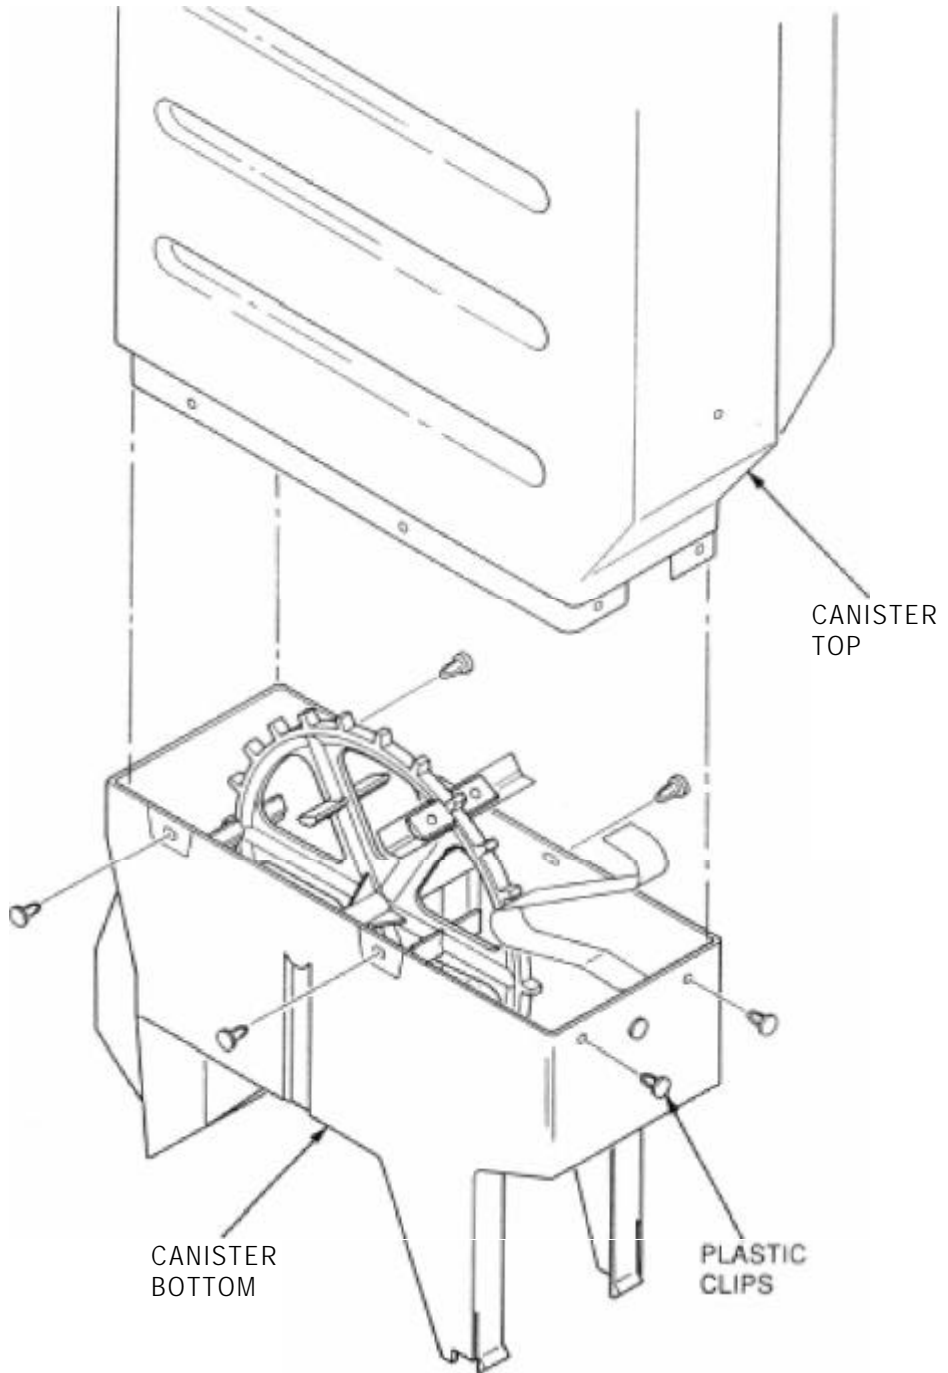

Figure 1.
2. See figure 1. From the inside of the canister, push out the 6 plastic clips. Separate the canister top from the inside of the canister, push out the 6 plastic clips. Separate the canister top from the canister bottom. Save the plastic clips for later.